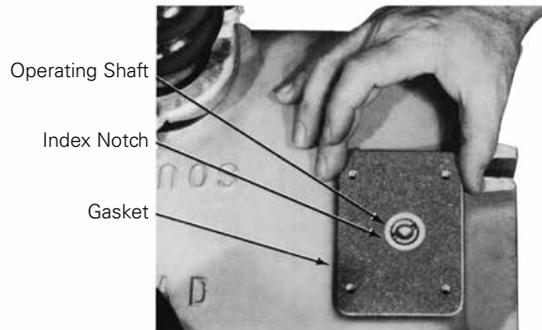

Figure 10. Installing gasket.
11. Position gasket KP611R as shown in Figure 10.
13. Engage switch shaft pin to the index notch on the operating shaft (Figure 10).